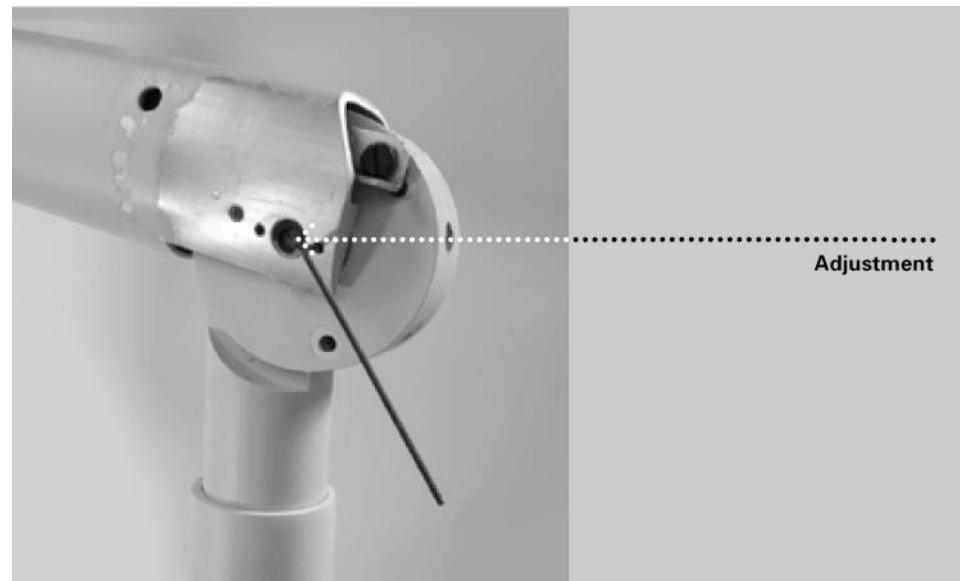

Figure 99
2. Using a 2 mm Allen wrench, as shown in *Figure 99*, tighten both screws evenly at each adjustment point until the movement of the Articulating Arm is as desired. Do not loosen adjustment points so far as to allow the Articulating Arm to drift.